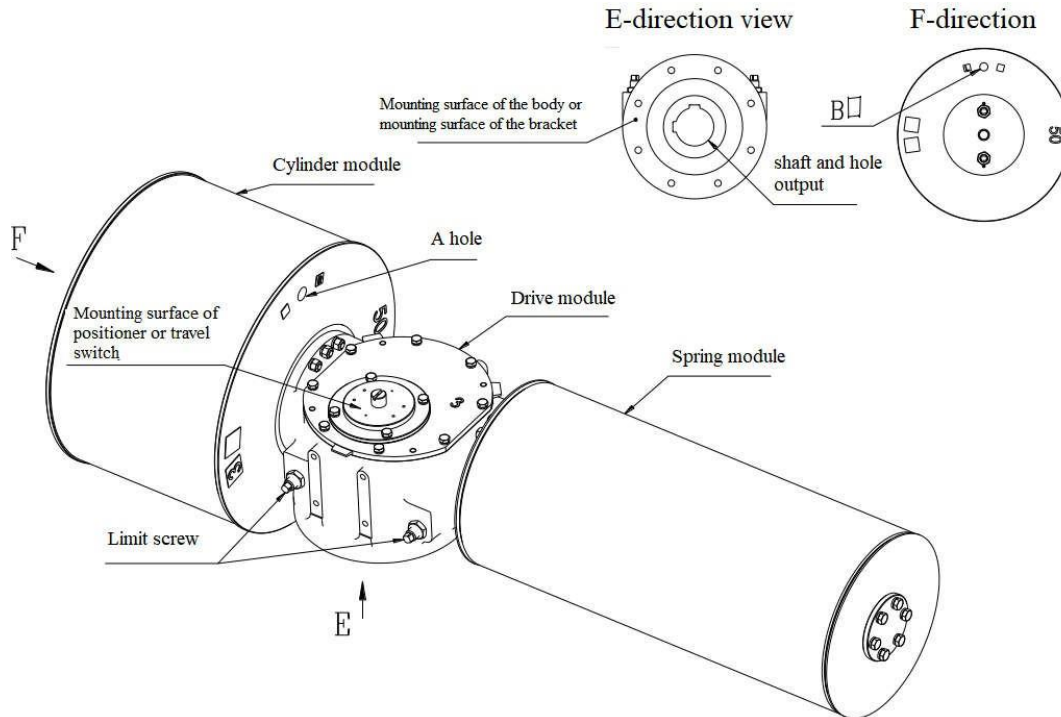

Figure 1 Actuator of the spring return of JFS Series
The cylinder module is moved to one side by the air from Hole A (see Figure 1), which makes the shift fork in the drive module rotate, and at the same time compresses the spring in the other side spring module, so that the actuator outputs torque.
By rotating the limit screw (see Figure 1), the start and end positions of the fork can be adjusted when rotating, as a result of limit of the entire travel.
Connect the mounting surface of the actuator to the body (see the mounting surface in Figure 1). Make sure that the bolts used are not below grade 8.8 of the steel.
After the actuator and valve (or other equipments) are installed, Intake A (see Figure 1) activates the actuator, and then the position of the valve will be adjusted by rotating the limit screw (see Figure 1).
Note: (1) In the operation of the actuator, it is necessary to keep the Hole B (see Figure 1) smooth.
(2) The actuator must not exceed the maximum allowable value in pressure (see the nameplate);
(3) If the actuator has a manual mechanism, make sure it is not involved (see 3.3 operation of manual mechanism).